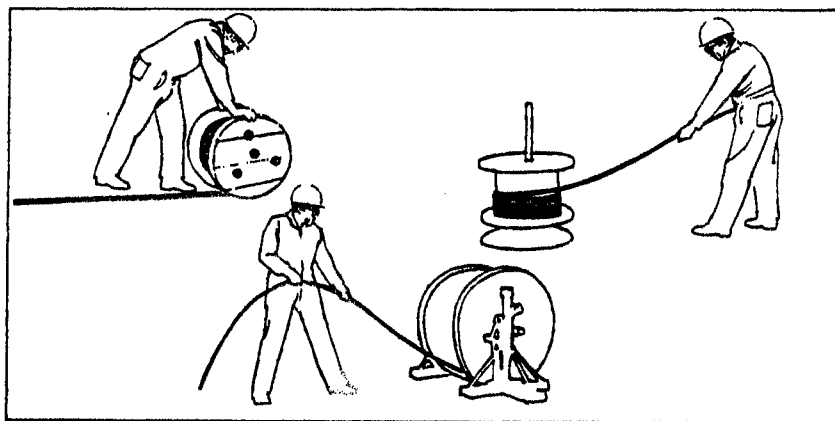

Fig. 2-3 Procedure for unreeing nylon and wire rope
- a. Do not uncoil new nylon rope by pulling the bitter end up through the eye of the coil. Unreel it like wire rope (See **Figure 2-3**). Should kinks develop due to uncoiling they can be worked out. Never attempt to clear kinks by dragging the rope in the water as this may tend to unbalance the lay and cause irreparable damage to the rope.